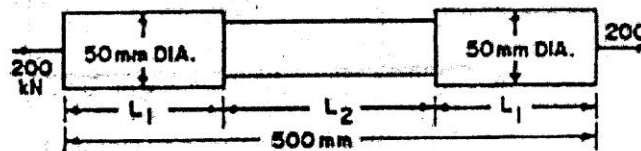

Figure-2
2. A bar shown in figure-2 is subjected to a tensile force of 200 kN at each end. Find :